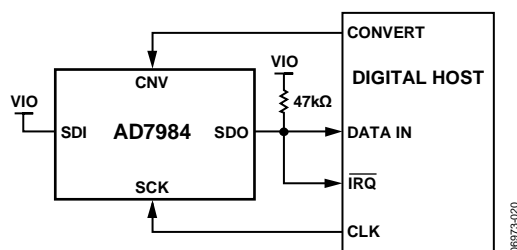
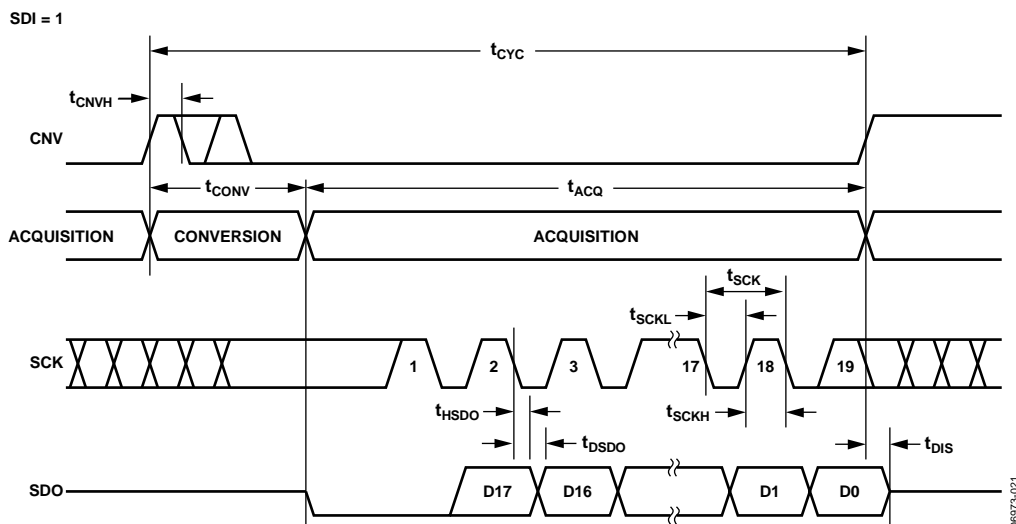
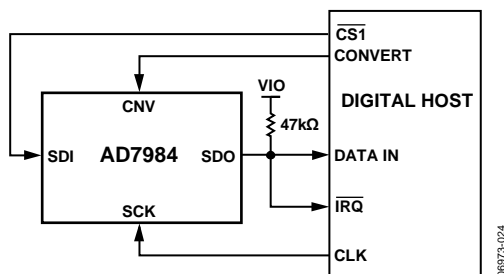
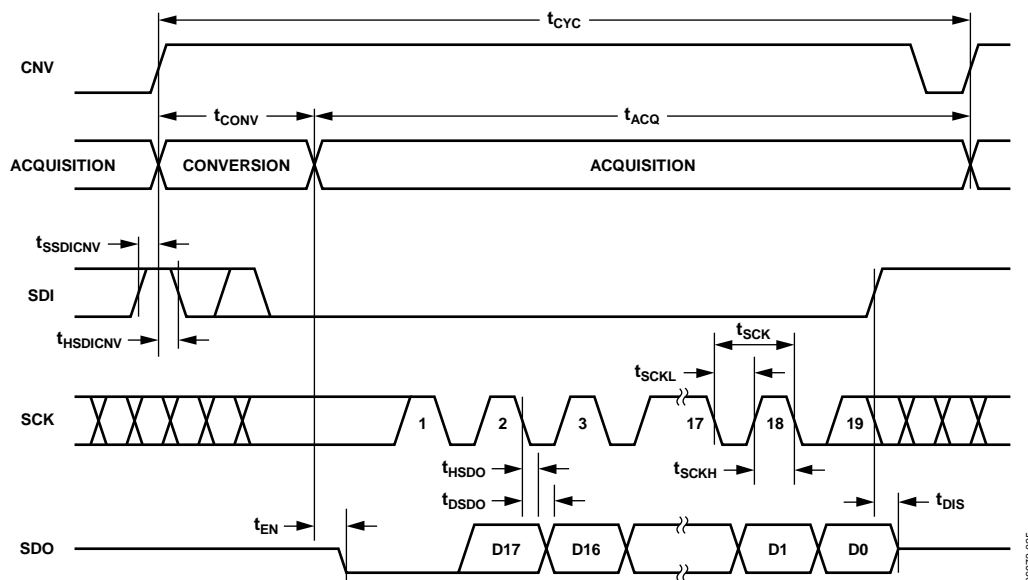

Figure 30.  $\overline{\text{CS}}$  Mode, 3-Wire with Busy Indicator Connection Diagram (SDI High)
Figure 31.  $\overline{\text{CS}}$  Mode, 3-Wire with Busy Indicator Serial Interface Timing (SDI High)
Figure 34.  $\overline{\text{CS}}$  Mode, 4-Wire with Busy Indicator Connection Diagram
Figure 35.  $\overline{\text{CS}}$  Mode, 4-Wire with Busy Indicator Serial Interface Timing
- In  $\overline{CS}$  mode if CNV or SDI is low when the ADC conversion ends (see Figure 31 and Figure 35).
The connection diagram is shown in Figure 30, and the corresponding timing is given in Figure 31.
The connection diagram is shown in Figure 34, and the corresponding timing is given in Figure 35.